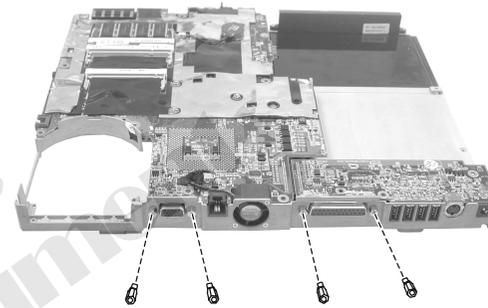

Figure 2-27 Remove the system board
7. Remove four hex nuts on the rear of the notebook. (Figure 2-27)